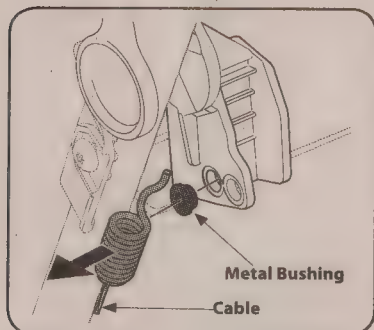

Figure 4-4
3. Unhook the cable and remove the metal bushing from the plastic drive handle. See Figure 4-4.